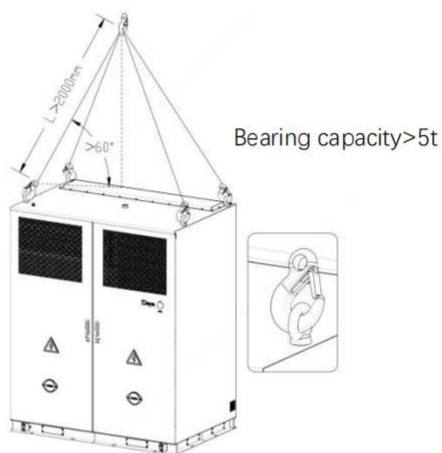

Figure.1
1. Remove four M30\*40 hexagon screws that are preset at the factory to prevent dust or other foreign objects entering the equipment. See the Figure.1.